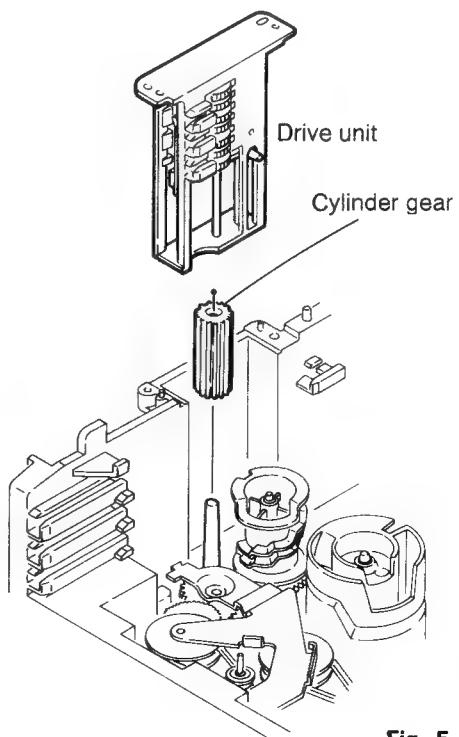

Fig. 5-31
- Pull out the drive unit and cylinder gear (See Fig. 5-31).